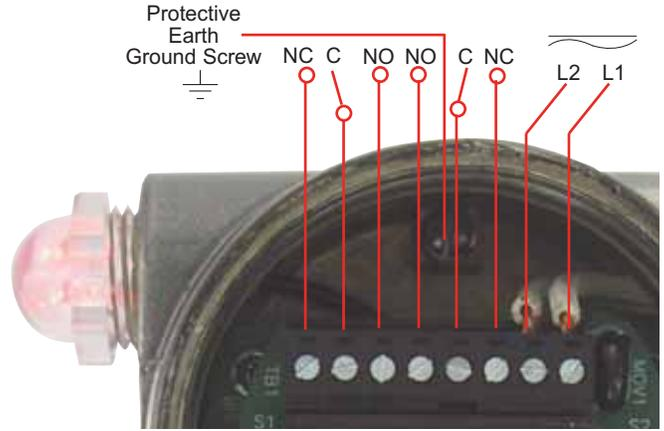

Figure 1: Terminals
**Grounding:** The case of the CLS2 must be wired to a protective earth ground. This may be done by using a metal conduit or by wiring to one of the protective earth ground screws in Figure 1 or Figure 2.
Strip 0.25” of insulation from the wires. Connect the power wires to terminals 1 and 2. If powered by DC, the polarity is not critical and either terminal may be selected for positive or negative. Connect control lines to the relay contact terminals (see Figure 1 for terminals). Torque terminals to 5 in-lb.